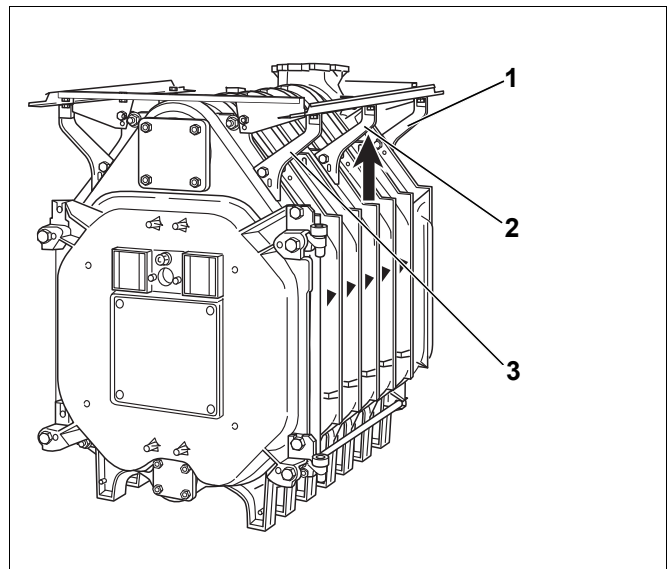

Fig. 40 Aligning the longitudinal rails
- Align the longitudinal rails and the mounting brackets on the front and the rear sections (Fig. 40, [1] and [3]) secure tightly.
- Push the central mounting brackets (Fig. 40, [2]) from below against the longitudinal rails and tightly secure on the boiler block.